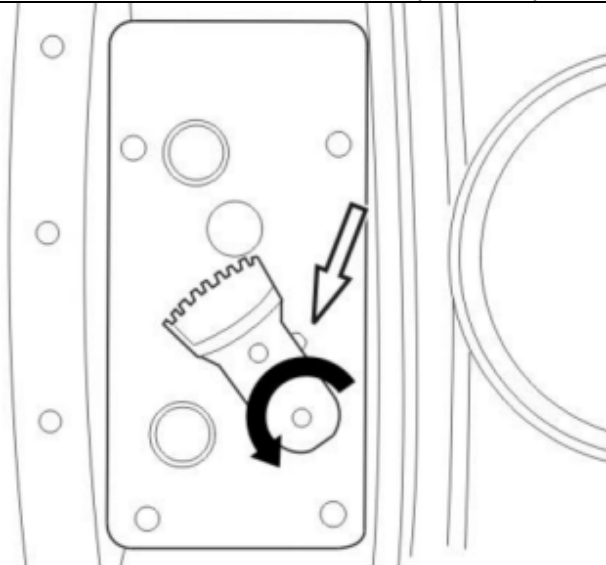

FIGURE 12
15. For turbochargers manufactured without the small 3mm (0.118 inch) alignment hole, a portion (half) of the 5mm (0.197 inch) alignment hole should be exposed at the compressor housing side of the sector gear when the sector gear is fully rotated toward the turbine housing (FIGURE 12).